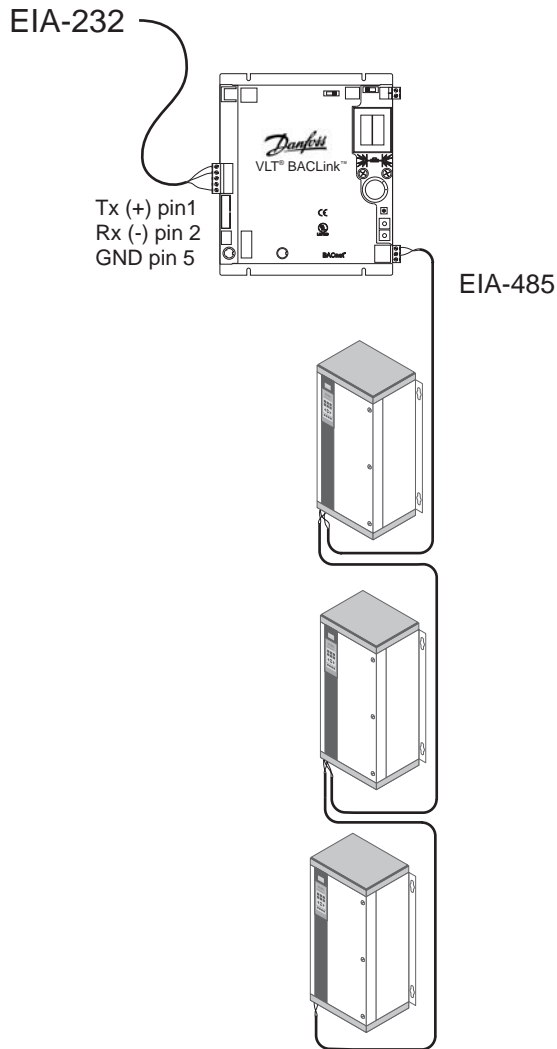

Figure 18. EIA-232 Network Connection
2. Wire EIA-232 network input cable to BACLink port 2 (see Figure 18). Tx (+) pin 1, Rx (-) pin 2, GND pin 5.